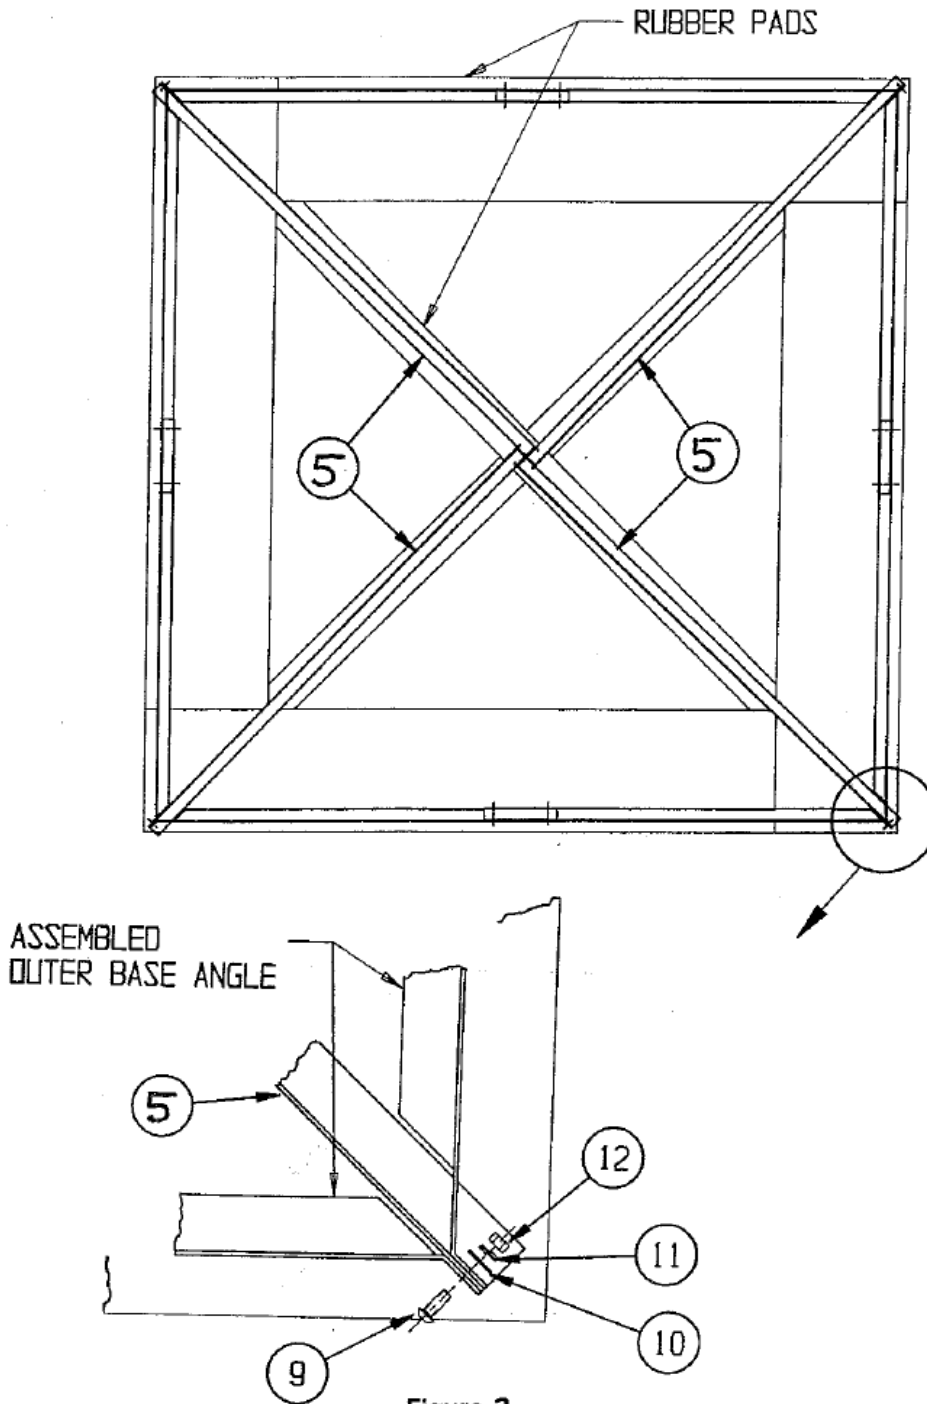

Figure 3
- STEP 4:** Layout the (4) outer base angles (assembled in step 3) and the (4) diagonal base angles (item #5) as shown in Figure 3. Attach the outer corners as shown using a 3/8" carriage bolt, flatwasher, lockwasher, and hex nut (items 9, 10, 11, & 12). Snug only.